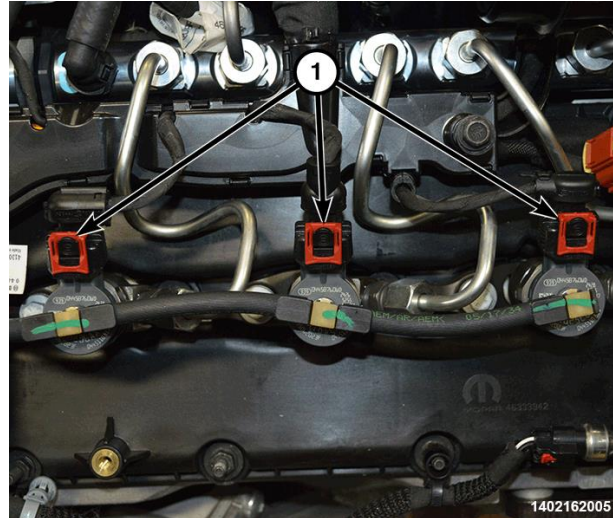

Figure 26 – Fuel Injector Connectors
10. Disconnect the fuel injector wire harness connectors (1) (Figure 26).